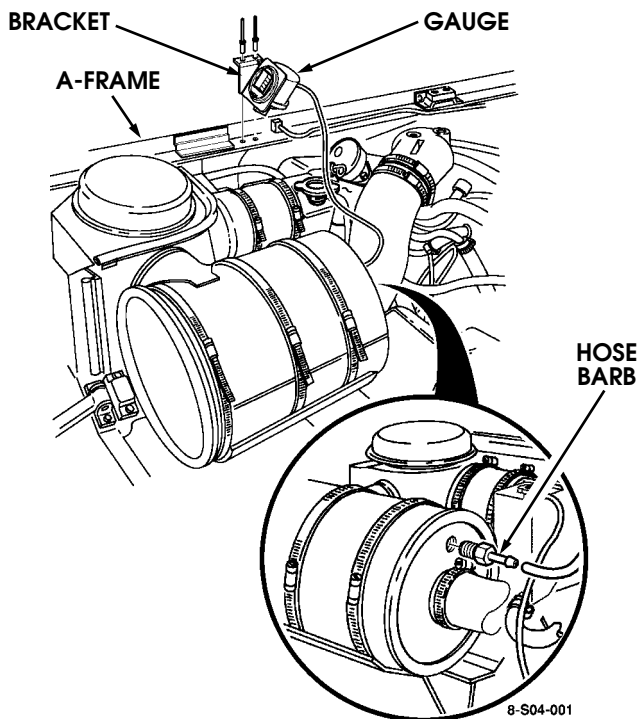

Figure 13-102: Air Filter Restriction Gauge Mounting
1. Disconnect the hose from the air restriction gauge and the hose barb in the air cleaner and remove the hose (Figure 13-102).